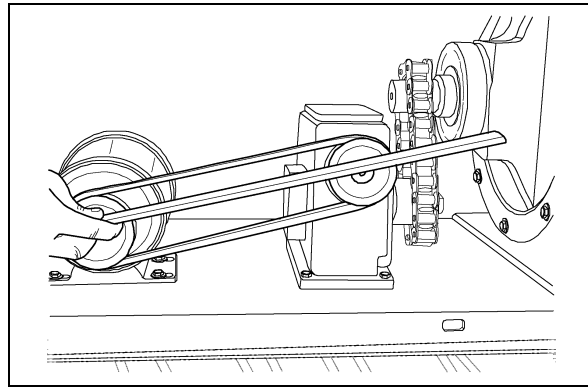

Figure 4M
8. Using four (4) 5/16" x 1" carriage bolts, washers, and nuts, mount the motor to the airlock deck. Place the 3-1/4" OD A-Groove Pulley on to the motor shaft and align to pulley on reducer. (See Figure 4M).